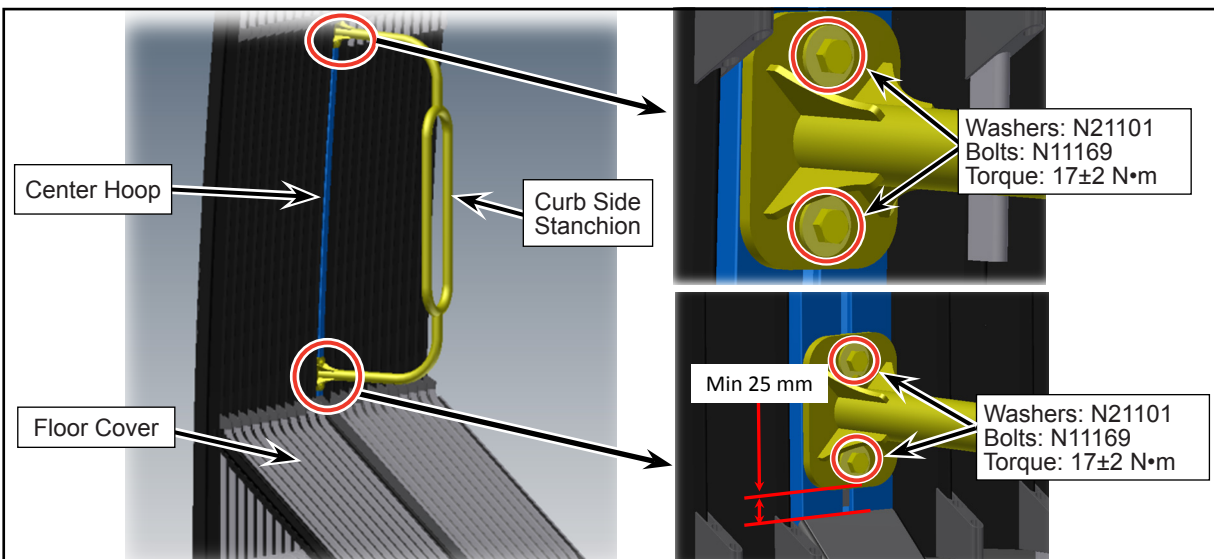

Figure 6 - Installation of New Stanchion
- 1.7. Install the new stanchion on to the tenon block present inside the center hoop profile with the hardware provided. Ensure that the new stanchion provided is installed on curb side of the bus (see Figure 6).
- 1.8. Ensure that enough gap (Min. 25 mm) is left between the lower edge of the stanchion and the floor cover profile as shown (see Figure 6).
- 1.9. Apply blue thread locker and torque the bolts as specified (see Figure 6).